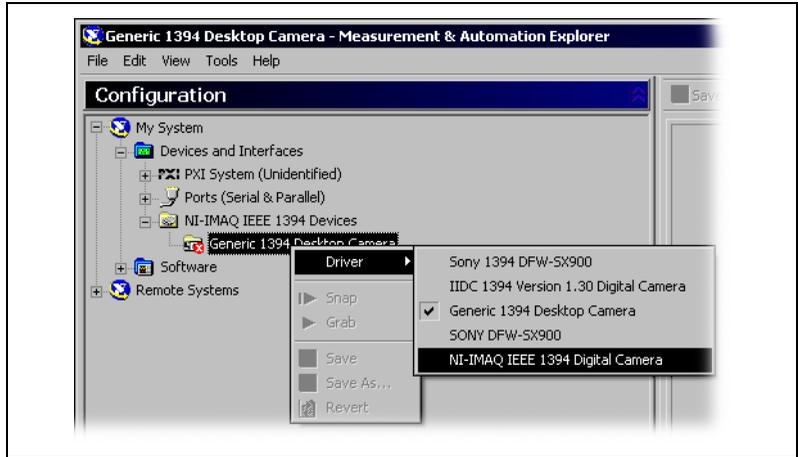

Figure 1. Switching the Camera Driver
- c. If your camera does not show up as a NI-IMAQ IEEE 1394 digital camera, switch the driver by right-clicking the camera and selecting **Driver»NI-IMAQ IEEE 1394 Digital Camera**, as shown in Figure 1.